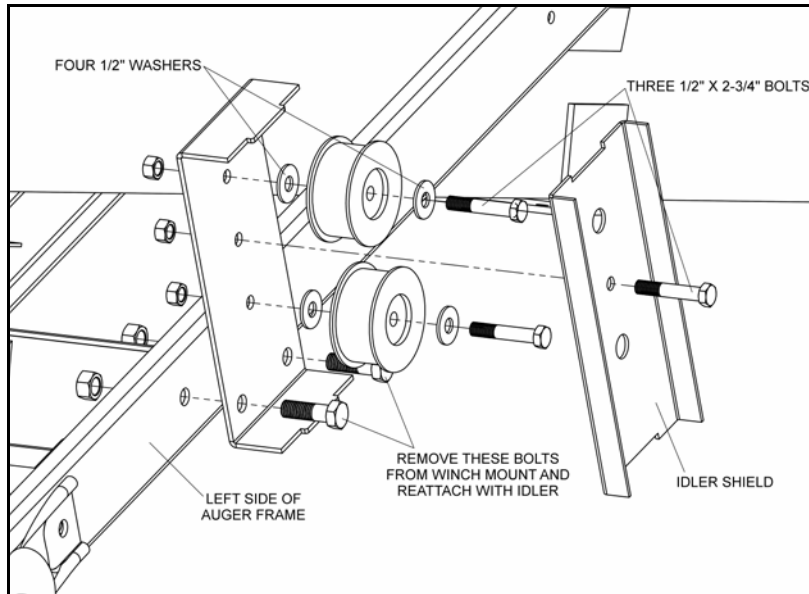

Figure 3.36
15. An idler is standard equipment on all TFX augers. Install idler by removing the two highest 5/8" bolts on left hand side of winch mount (refer to Figure 3.1). Use removed bolts to secure idler to frame. Re-tighten bolts as shown in Figure 3.36.
16. Install two idler pulleys to idler mount bracket with two 1/2" x 2-3/4" bolts, four 1/2" washers and two 1/2" locknuts. Install idler shield to idler mount bracket with one 1/2" x 2-3/4" bolt and 1/2" locknut (Figure 3.36).